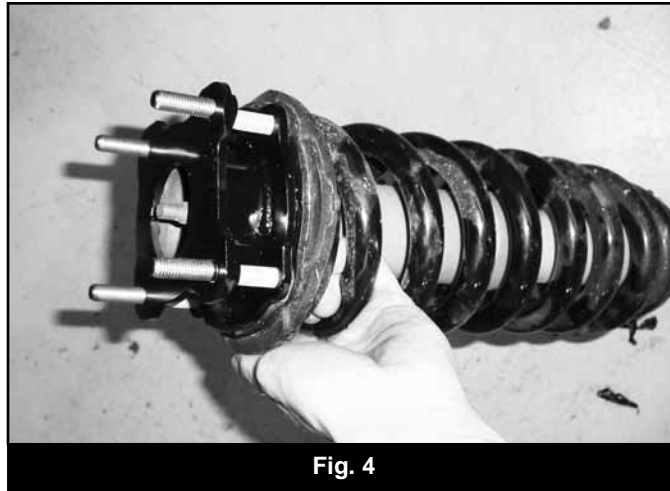

Fig. 4
11. Install new spacers on top of strut with OE nuts, tighten to 35 ft-lbs. Note: the new bracket will only fit onto the strut assembly one way. 'OUT' will be located in the same position as the OE assembly and will face towards the outside of the vehicle when it is reinstalled. (Fig 4)